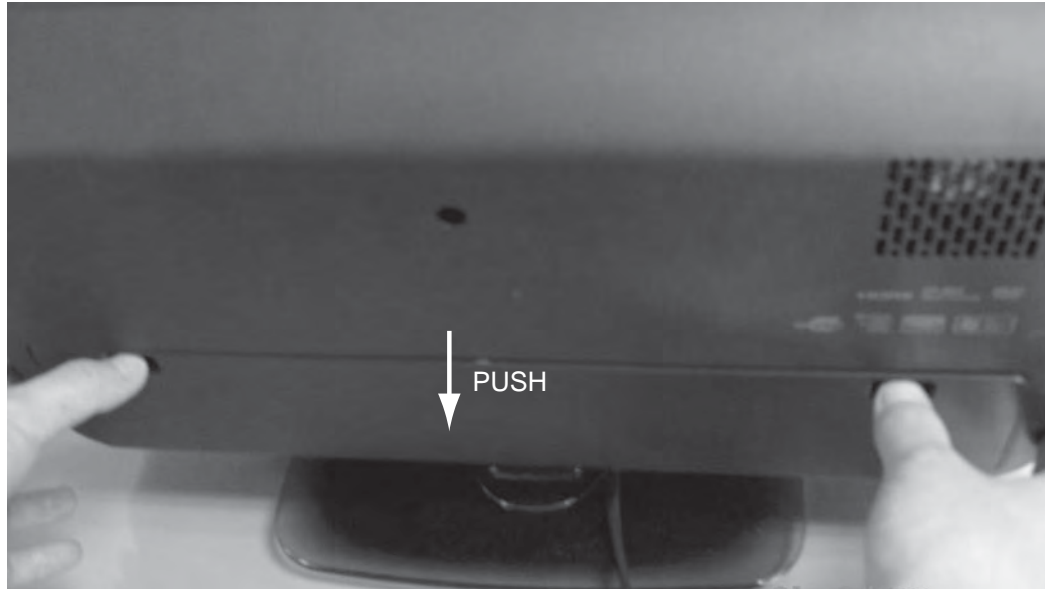

Figure 1
- 1) Push the cable door to remove it as shown in figure 1.